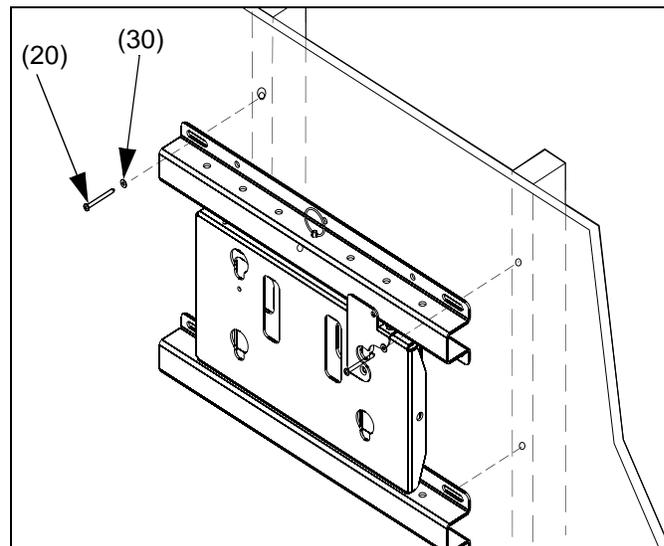

Figure 4: Install Mount
5. Place mount assembly against wall and align mounting holes in mount assembly with pilot holes (See Figure 4).
6. Secure mount to wall studs using four wood screws (20), and four FW (30).